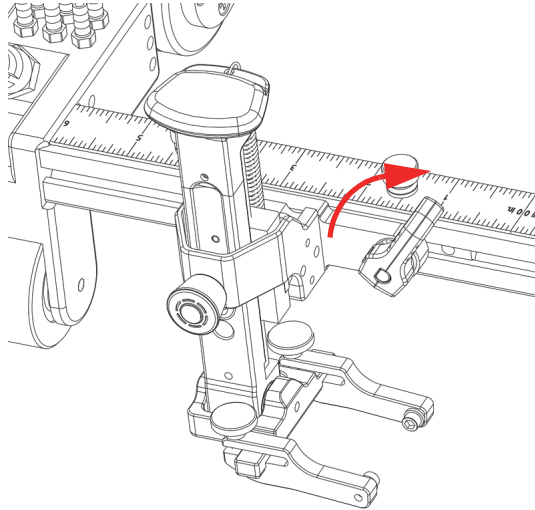

Figure 2-13 Probe holder secured into place
4. Rotate the position lever clockwise to lock the probe holder into place (Figure 2-13 on page 45).